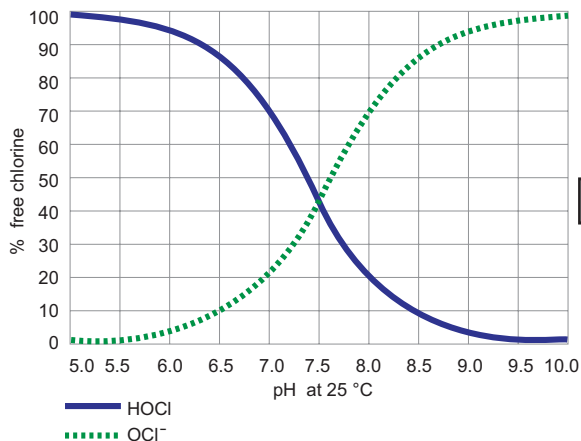

Figure 1
- Remove applicable sensor access plugs from the flow cell (Section I, Figure 1). Holding the 3-2650-7 or 3-2750-7 electronics inverted open the DryLoc® connector by turning the upper locking ring ¼-turn counter-clockwise, insert the electrode facing up. Turn the locking ring ¼-turn clockwise to lock the electronics in place. The mechanism will “click” when it is locked. Install the complete assembly into the flow cell and insure the key on the electrode aligns with the key slot on the flow cell.
Various forms of chlorine are used to disinfect water. Each form of chlorine has benefits and limitations which help determine the specific application. The predominant categories used in disinfection are Free Chlorine, Total Chlorine and Chlorine Dioxide. Free Chlorine is the sum of chlorine gas (Cl_2), hypochlorous acid (HOCl) and hypochlorite (OCl^-). Above pH 4.0 all of the molecular chlorine is converted to HOCl and OCl^- . Hypochlorous acid is a more potent disinfectant than hypochlorite and exists in a pH dependent equilibrium as shown in Figure 1.
Amperometric free chlorine sensors measure only hypochlorous acid. As noted in the text above and in Figure 1, the ratio of hypochlorous acid and hypochlorite is pH dependent. In many applications the process pH is relatively stable and no correction is needed. However, where the pH of the water changes significantly, accurate free chlorine measurement requires pH compensation. With the addition of a pH sensor, the Signet 8630 transmitter will automatically compensate the free chlorine reading for changes in pH.